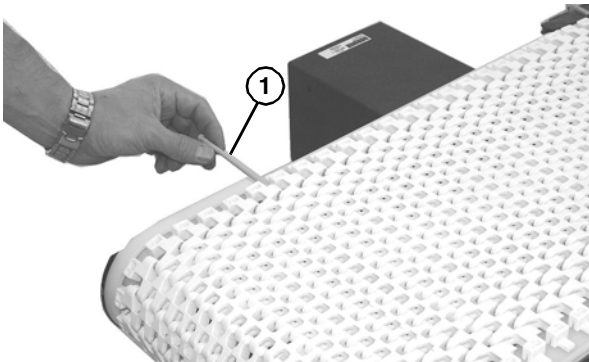

Figure 20
8. Insert the belt rod (**Figure 20**, item 1).